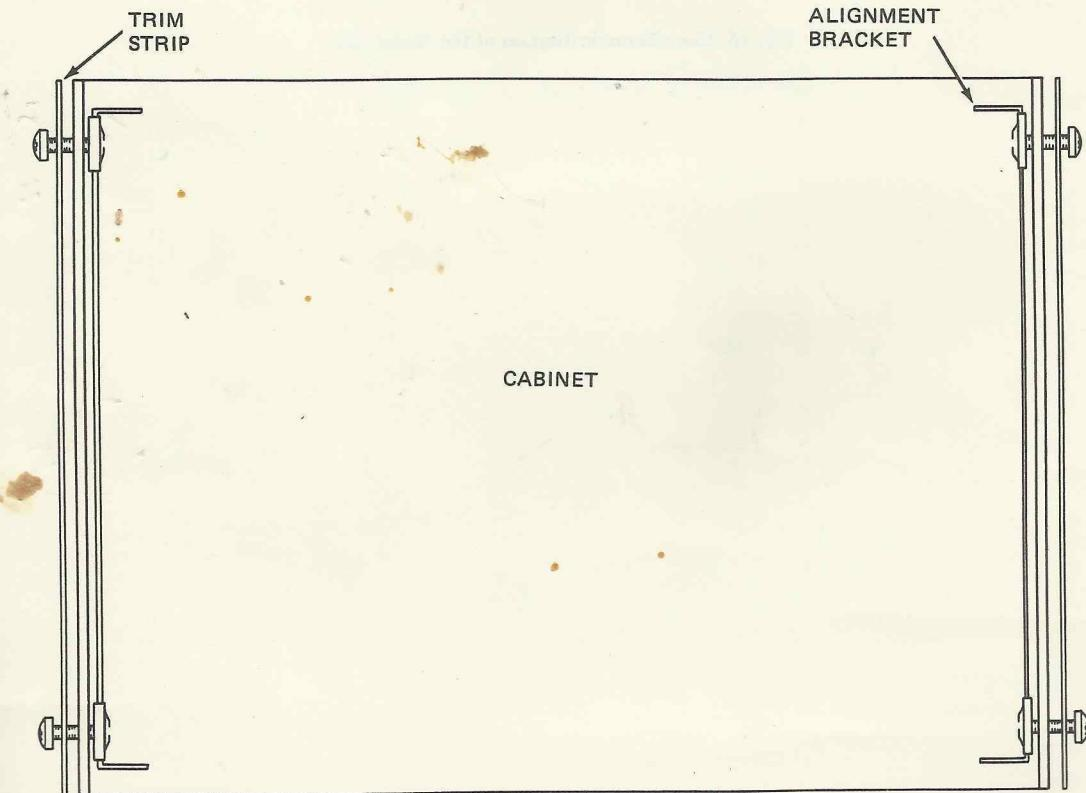

Fig. 14. Mounting the trim strips and the alignment brackets on the cabinet bottom.
(5) Next, locate two of the black Phillips head 8-32 screws. Put the screws through the two holes on one side of the black trim strip, and through the holes in the cabinet half on which you mounted the feet. Then screw them into the Tinnerman nuts on the cabinet aligning brackets as shown in Fig. 14. Do not tighten the screws. Do the same thing with the second cabinet trim strip and alignment bracket on the other side of the cabinet bottom
(6) Now carefully lift the power supply and lower it inside the cabinet bottom so that the alignment brackets are on the inside of the front and back panels